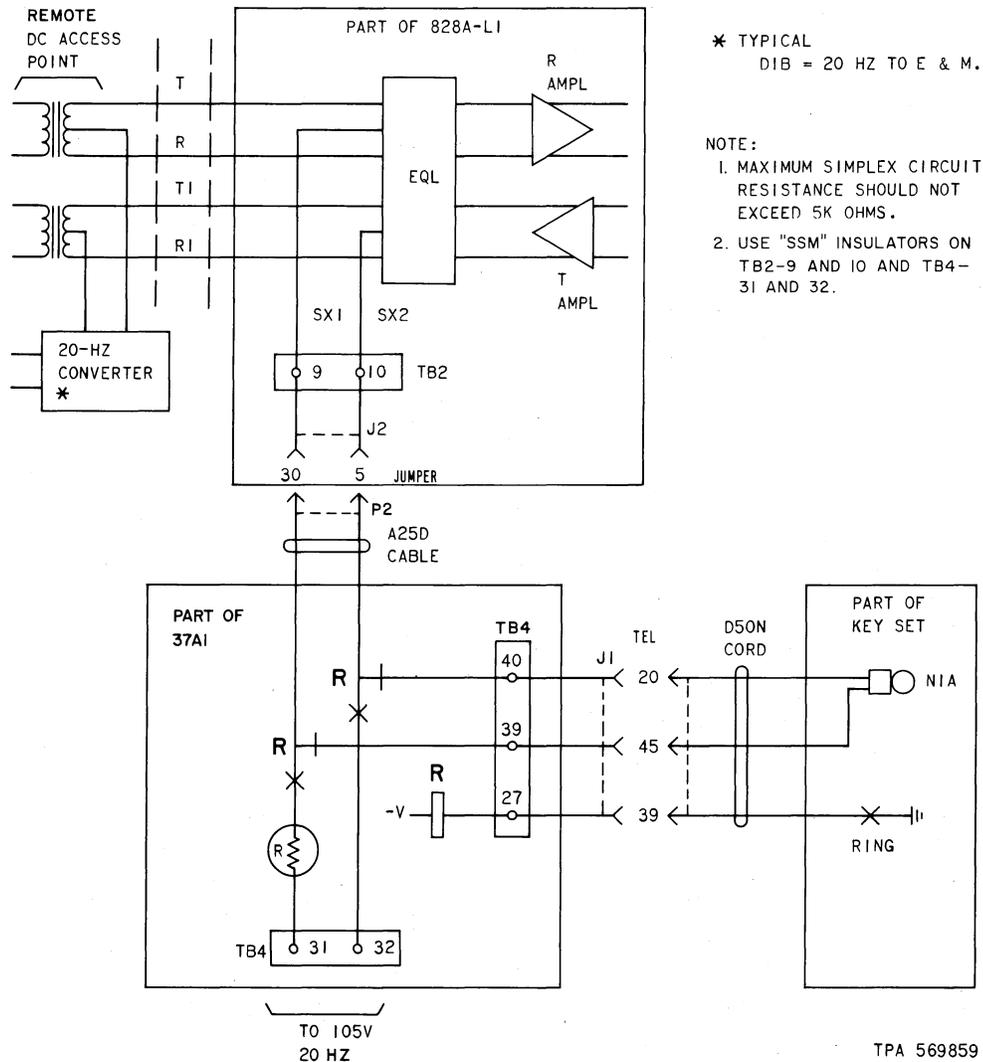

Fig. 13—20-Hz Ringdown Circuit for DAS 828A-L1/2
3.31 The circuit diagram of Fig. 13 shows the ringing circuit up to the 20-Hz converter in the central office. As shown, the ringing signal is sent and received over the simplex line pairs. The circuit resistance of the simplex pair must not exceed 5000 ohms to ensure that the central office (CO) can activate the ringer in the telephone key set. Resistance values of less than 5000 ohms do not require any build-out resistance to be used. For long loops, the ringer in the telephone key set should be set to its low notch bias position. Ringdown signaling without CO 20-Hz converters is permissible when simplex circuit resistance, from station to station, is less than 5000 ohms. A direct metallic connection between stations is required, if no converters are used.